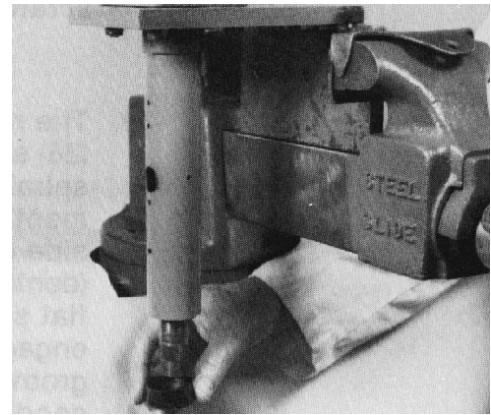

Figure 57
44. Slide the seal from the jacket tube (Fig. 57). If the seal is worn or damaged, it must be replaced.